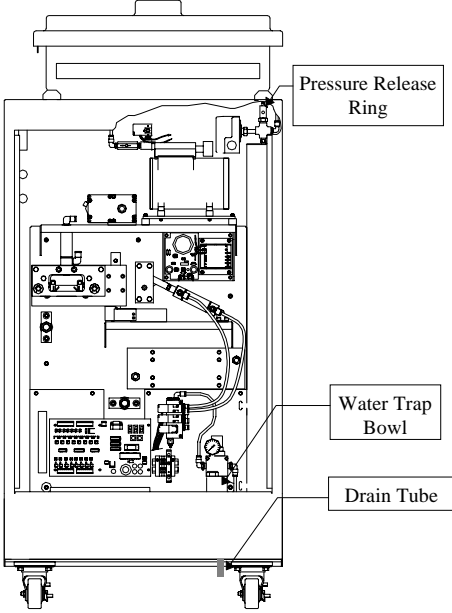

Figure 1
3. Locate the Pressure Release Ring (*fig. 1*), pull it up and hold until all of the air pressure is released.
4. Locate the water trap bowl (*fig. 1*):